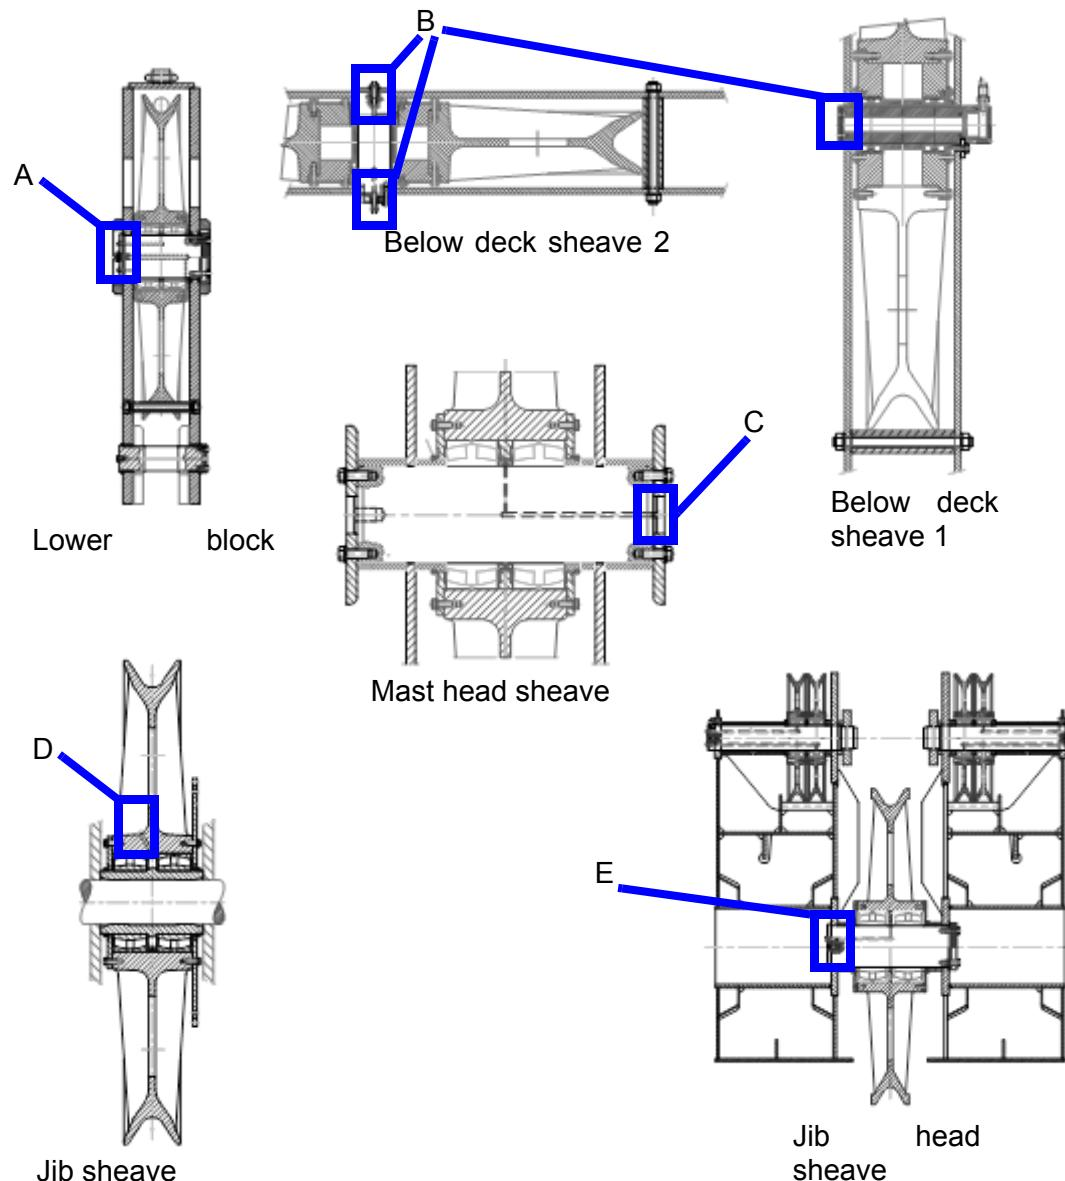

Figure 7-105: main hoist sheaves - Greasing points
- Grease the sheaves according to the greasing schedule. (For the location of grease nipples see Figure 7-105).